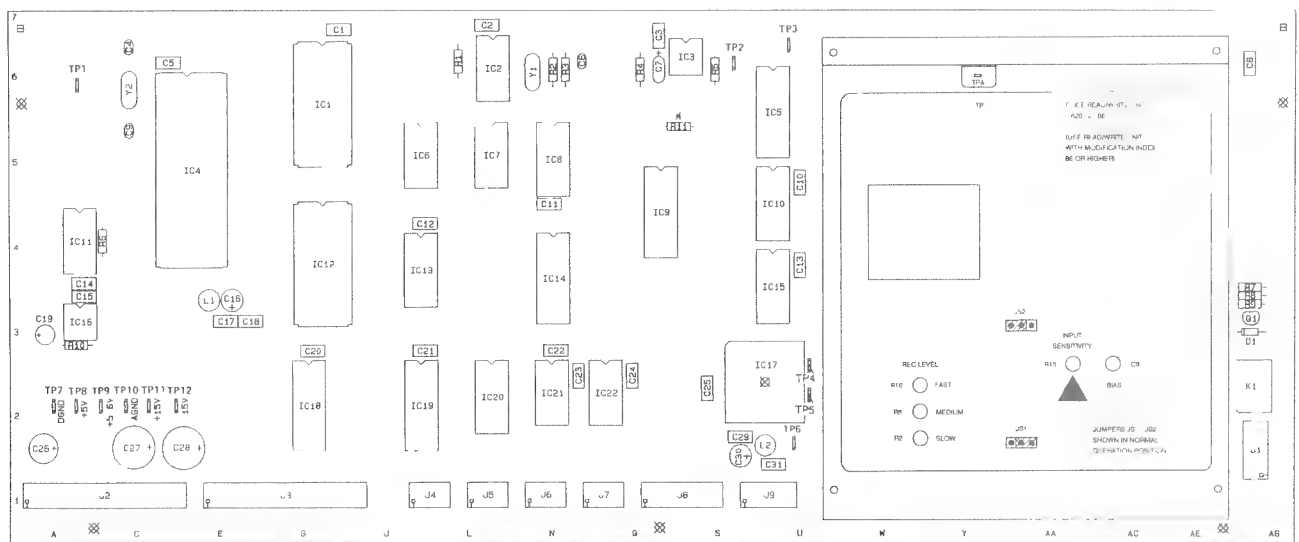

Fig. 4.7.2 Time code processor board 1.727.710
Connect the ground to TP3 of the TC processor unit (see Fig. 4.7.2).
- Connect the time code generator to the time code line input of the tape recorder and turn R15 on the time code read/write unit to the counterclockwise limit position (see Fig. 4.7.2).